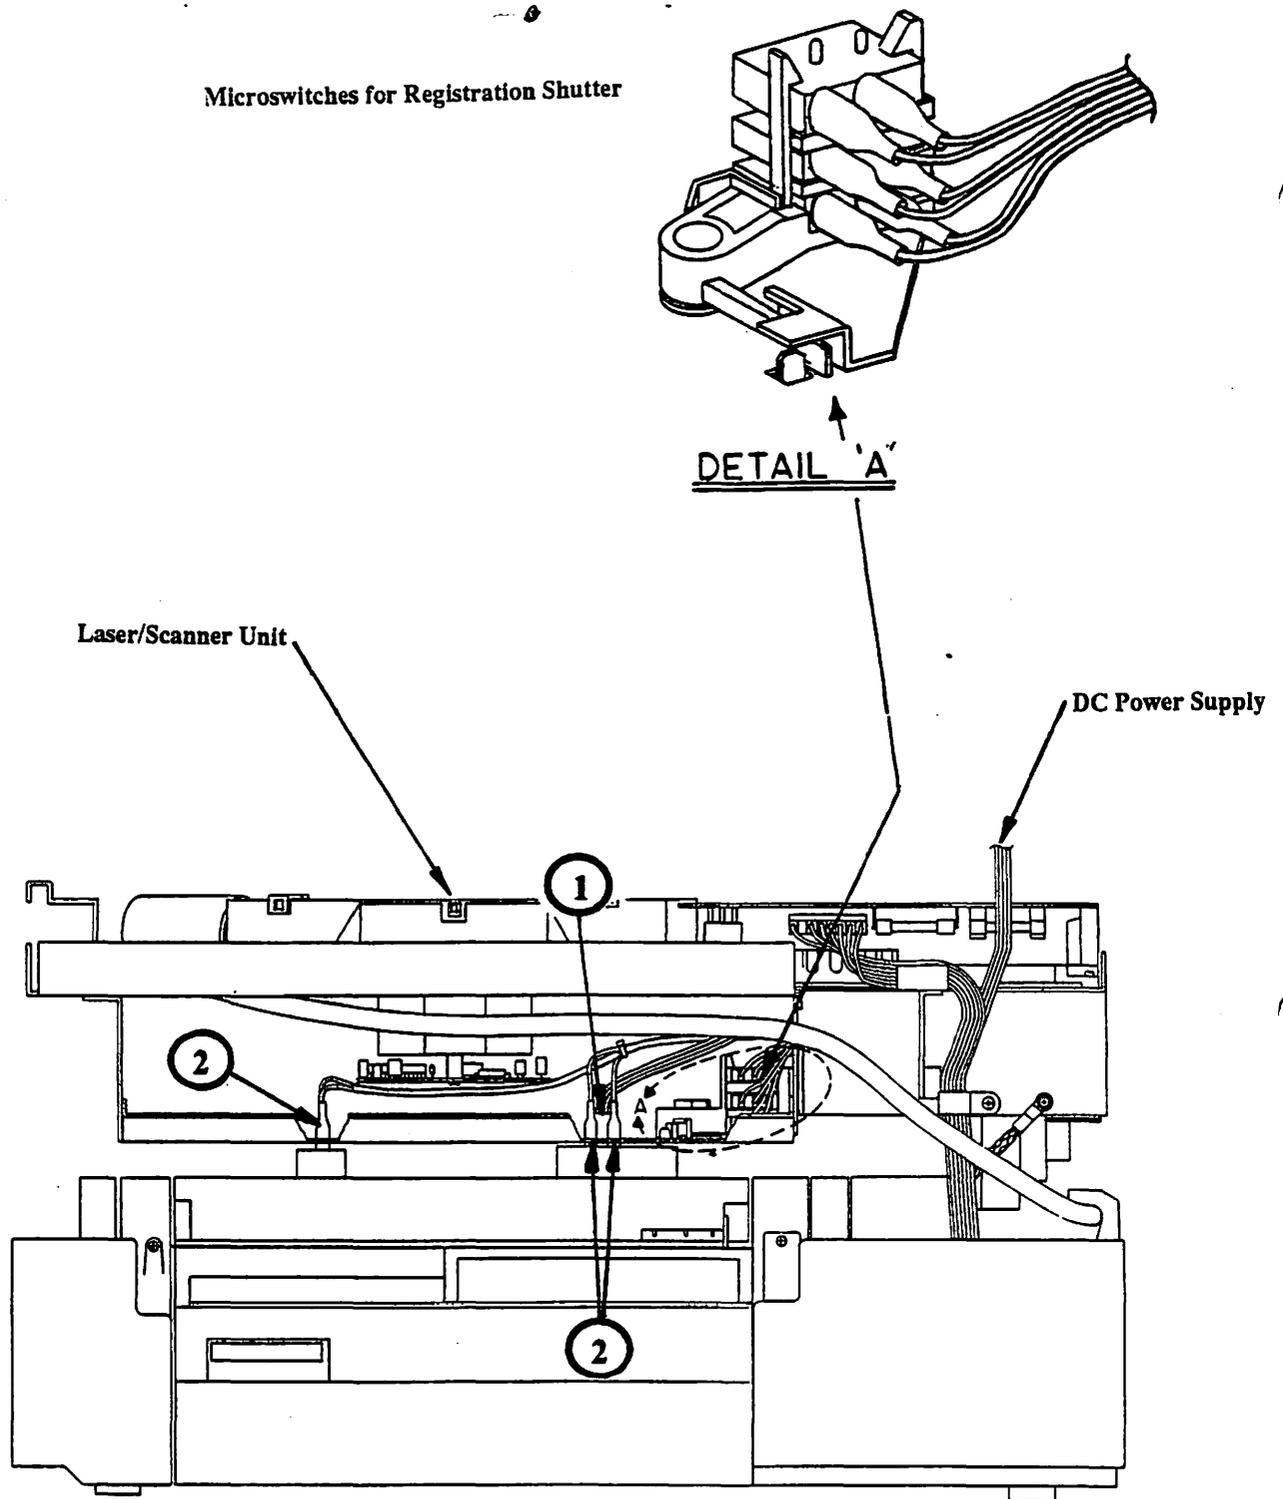

Figure 2-11 : Right Side of Printer With Panel Removed
IMPORTANT: Before starting, locate the cartridge-detect microswitch assembly and note how the white plastic arm is seated between two metal tabs (see Figure 2-11, Detail A). This is your test for whether the assembly has been replaced correctly. If the white plastic arm is not properly seated, the printer will not function: it will "think" that the toner cartridge is not installed and the green READY light on the front panel will not come on.
3. Using long-nose pliers, remove the three-wire connector (Figure 2-11, #1) and the four fast-on connectors (Figure 2-11, #2).
2. Lift the shutter assembly into its place in the top of the printer. Check the white plastic arm of the microswitch unit to make sure it is correctly seated. (See Figure 2-11, detail A.)